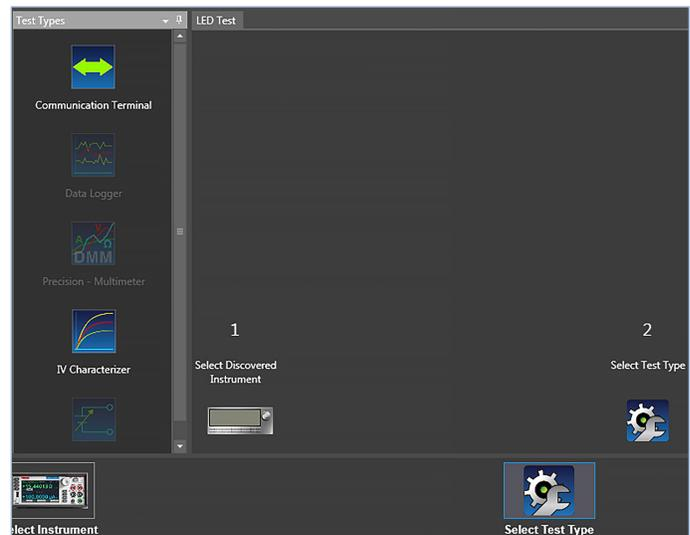

Figure 10: Selecting the test type
- At the bottom of the screen, click **Select Test Type**. The Test Types panel opens on the left side of the screen, showing the available test types (see **Figure 10**).